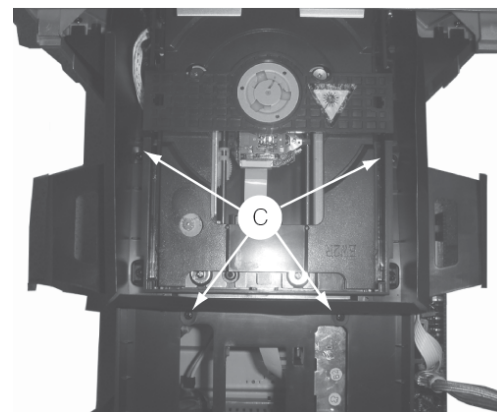

Figure 3
- 2) Loosen the 4 screws at DVD loader bracket as Figure 3.